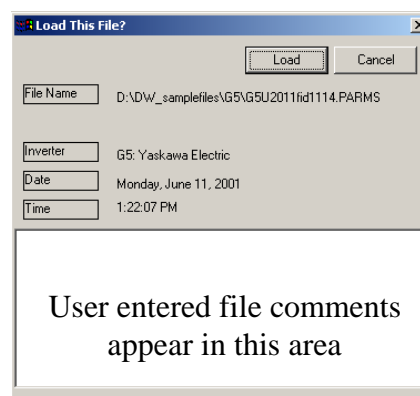

Figure 3.12: Open file Comment Window
- Select a file to open by highlighting the file name in the window. Click on the **Open** button. Another window will open giving you details of the file you are about to load into DriveWizard™ (Figure 3.12).